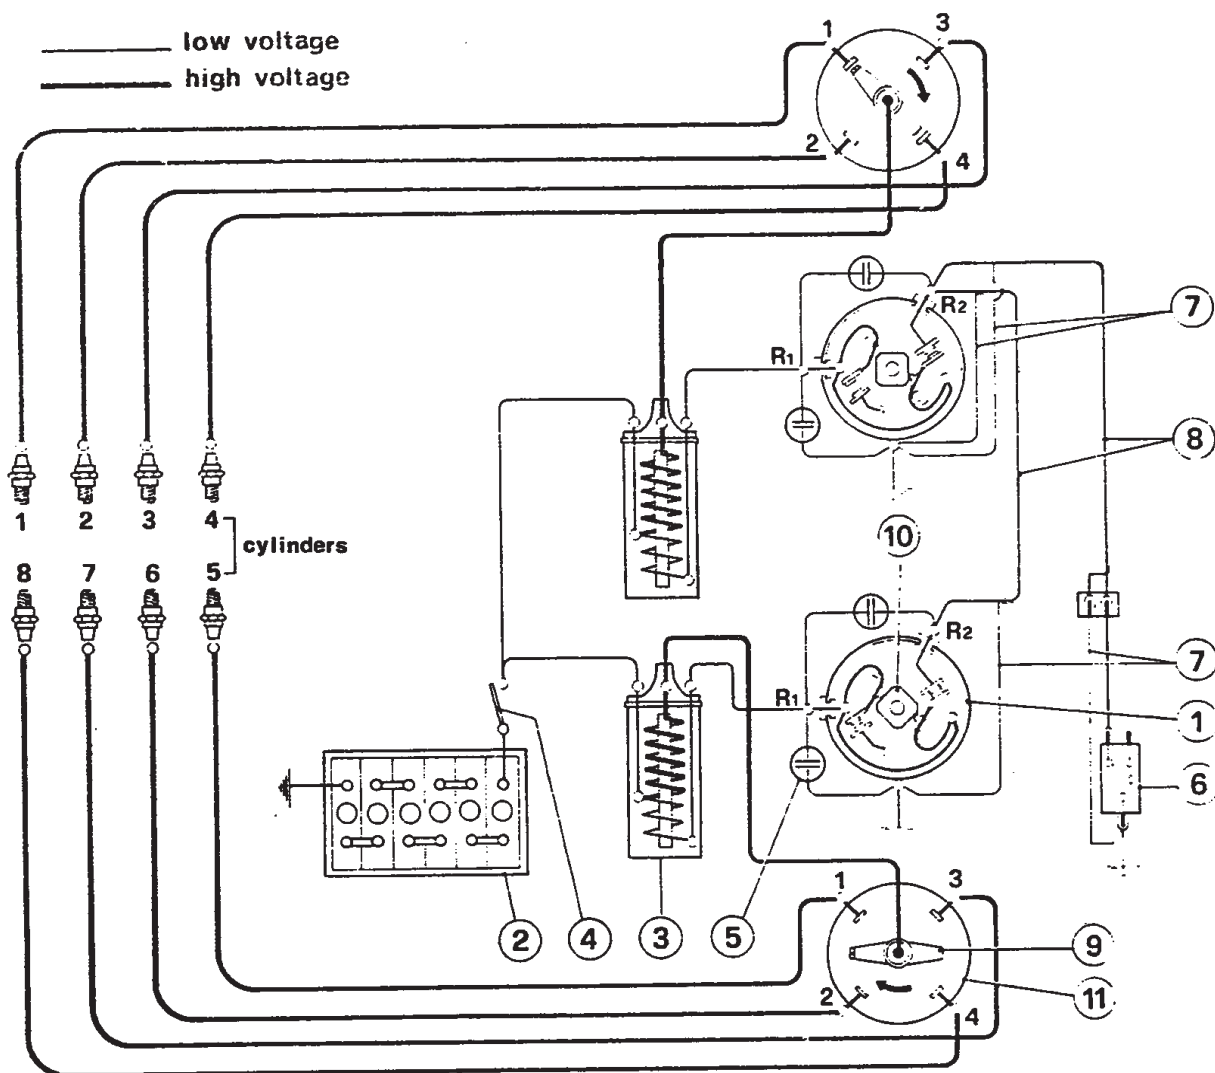

Fig. 5 - LAYOUT of IGNITION CIRCUIT.
As shown in the wiring diagram (fig. 5), the closing of the switch (4) (which is the starting and ignition switch located on the dashboard), provides an electric circuit which is called primary current circuit: the current circulates in the ignition coils (3) primary winding then it passes through the rotor contacts and returns back to the battery through the earth of the vehicle chassis.